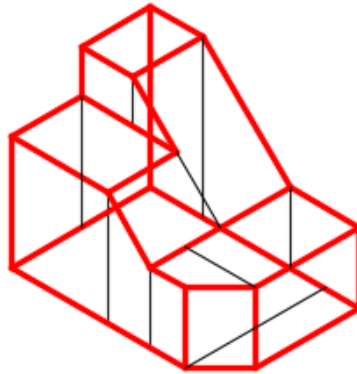

Figure Step 5
Step 5 On layer: Construction, draw the construction lines to help you insert the surfaces. Keep in mind that the maximum number of sides that a face can be bound by is 4. Draw the lines on all six sides. (Figure Step 5)